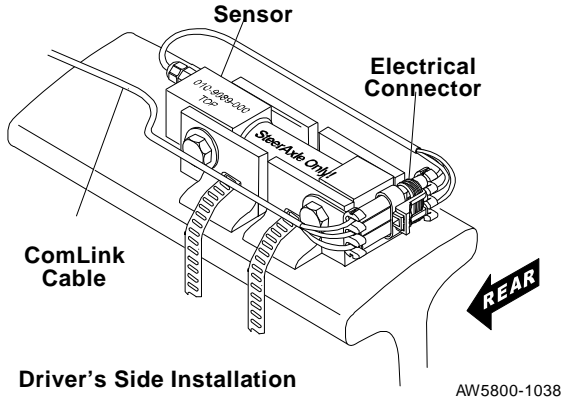

Figure 15. Placing the ComLink Cable for a Driver's Side Hookup
1. Facing towards the rear of the vehicle, route the cable from the connector assembly so it runs to the right of the steer axle sensor assembly. See Figure 15.